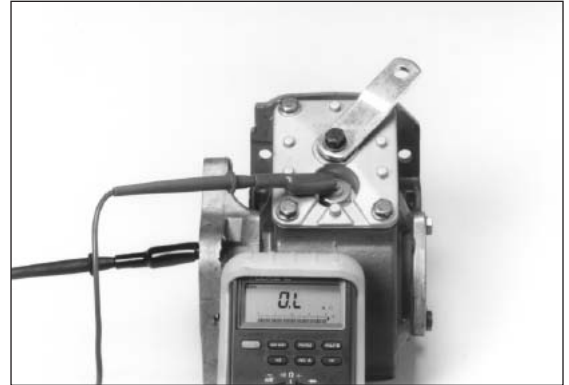

Fig. 15
2. With the other probe, make contact with the shifter cover or housing (**Fig. 15**).